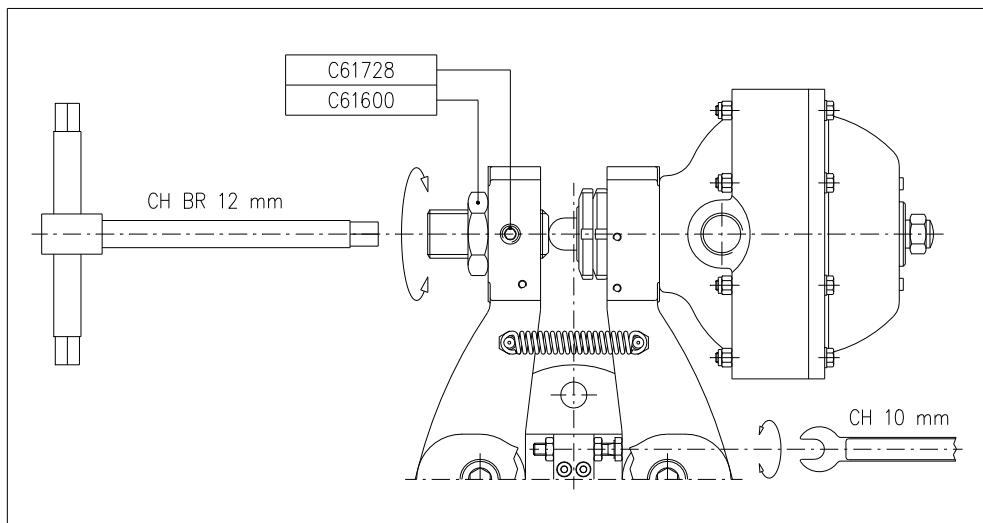

Figure 1
- Adjust the play between the brake linings and the disc using the play adjuster and a n. 12 Allen key, rotating in the appropriate direction (Figure 1); when a play of 1 mm has been obtained between the disc and each brake lining, lock the adjuster in position screwing the nut (C61600) all the way down using a n. 36 spanner and locking the adjuster (C61728) using a n. 5 Allen key. Adjust the screw located between the levers using a n. 10 spanner (Figure. 1), until the weight of the thruster is balanced; when balanced lock the screw by tightening the nuts.
3. Lock the nut C61600 and the grub screw C61728 (Figure 1).